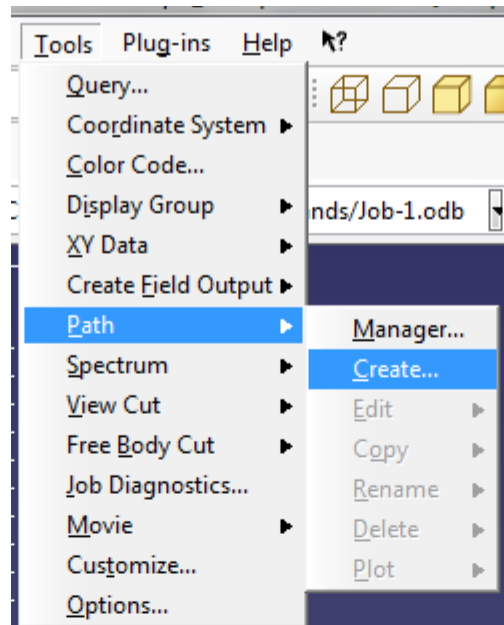

Figure 20
- To plot the temperature distribution at $y = 0$ (through the middle of the bottom leg) as shown in Figure 20